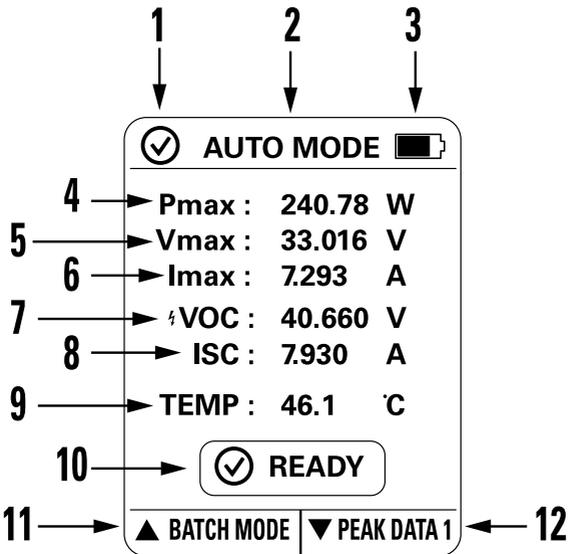

Figure 4.2 Home page description.
5. View the test results on the display. Refer to Figure 4.2 for test result basics.